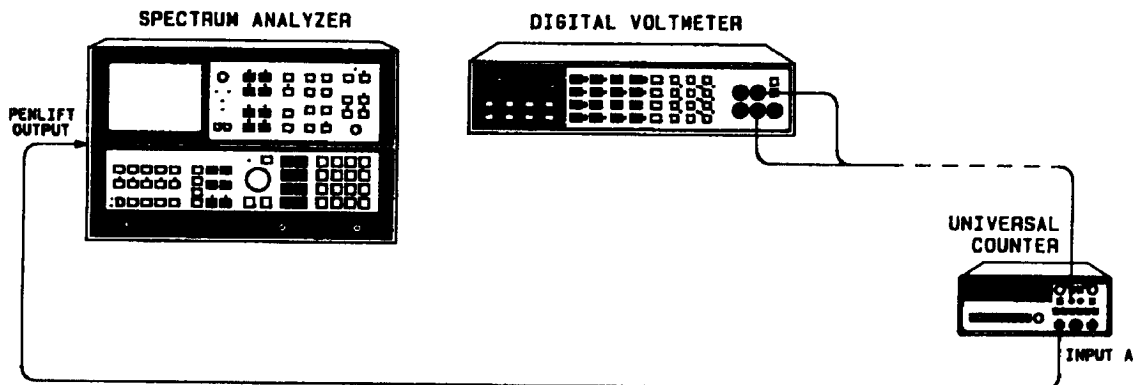

Figure 2-21. Sweep Time Accuracy Test Setup
1. Connect equipment as shown in Figure 2-21.